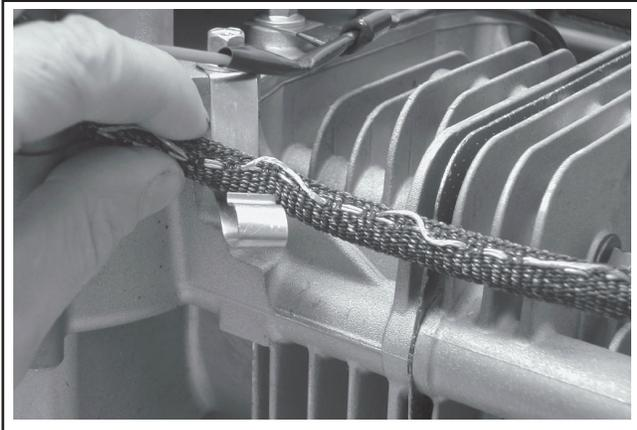

**Figure 8-19. Removing Heat Deflector.**
7. Remove the carburetor gasket, then carefully remove the heat deflector and gasket from the intake stud. The heat deflector is made from a plastic that is quite brittle. Do not pry on the corners, or you risk cracking/breaking the deflector. If prying is necessary to loosen the deflector, carefully pry near the intake stud only. See Figure 8-19. Remove the mounting stud from the cylinder only if required.